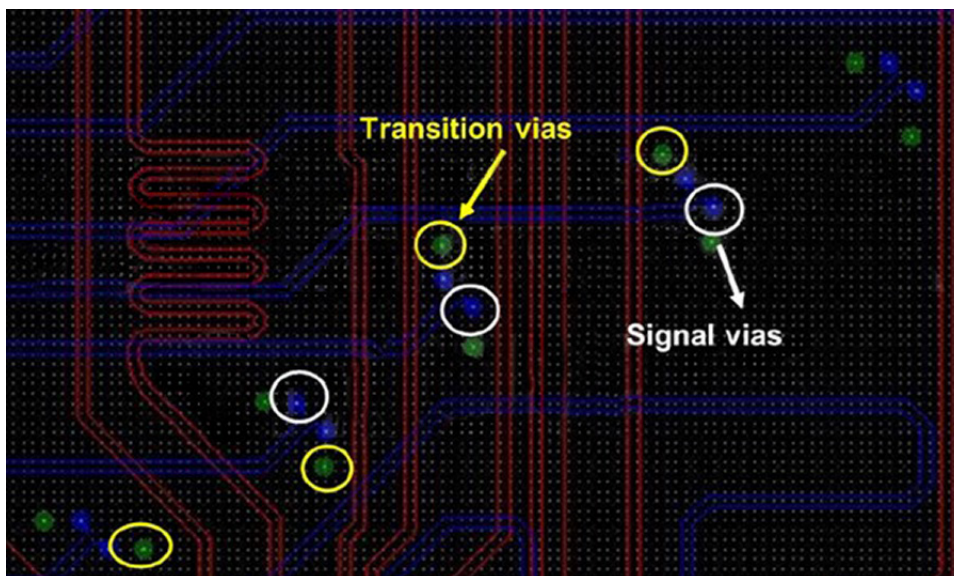

Figure 5. Transition vias near the signal vias.
- When a signal changes its reference plane, place transition vias close to signal vias to maintain a continuous return path (**Figure 5**). Transition vias provide direct routes for signals to switch between different reference planes.